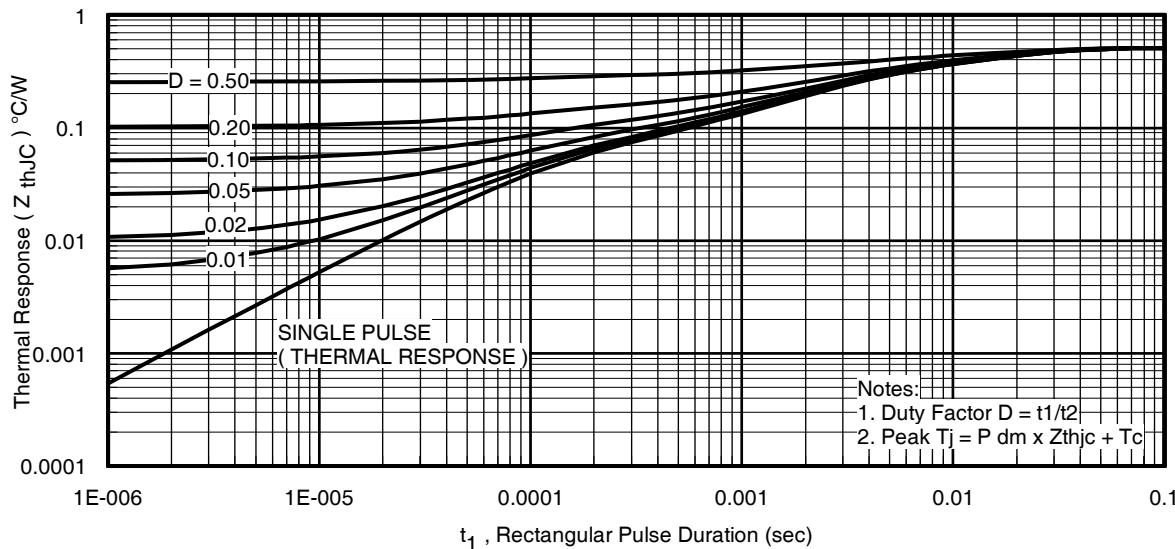

Fig 13. Maximum Effective Transient Thermal Impedance, Junction-to-Case
- $Z_{thJC}(D, t_{av})$ = Transient thermal resistance, see Figures 13